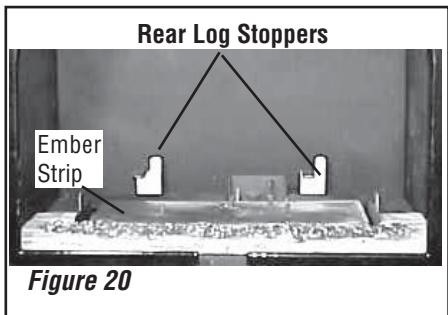
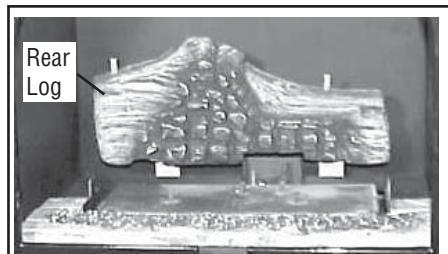

Figure 20
Figure 21
- Carefully place the ember strip as shown in Figure 20. Ensure that it is pushed all the way back in position (toward the sub-floor front flange).
- Place the largest log onto the rear log stoppers (see Figure 20). Ensure that the grooves on the bottom of the log aligns onto the corresponding places on the rear log stoppers. Push the log back so that it is against the back of the rear log stoppers (see Figure 21).